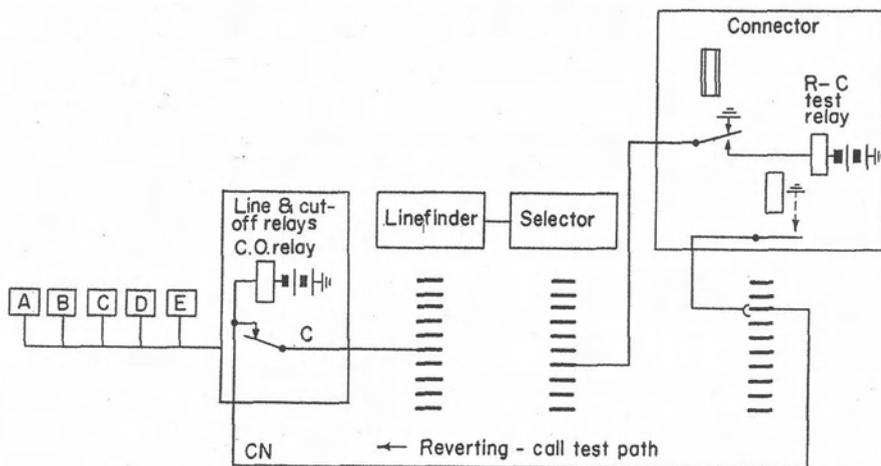

Figure 2. Reverting call by directory number. Caller has dialed, hears busy tone, and is about to hang up.
2.1 The caller dials the REGULAR DIRECTORY NUMBER. The connector completes the call (figure 2). This method is confined almost solely to very small code-ringing exchanges.
## 3. CONNECTOR FOR REVERTING CALL BY DIRECTORY NUMBER (figure 2)